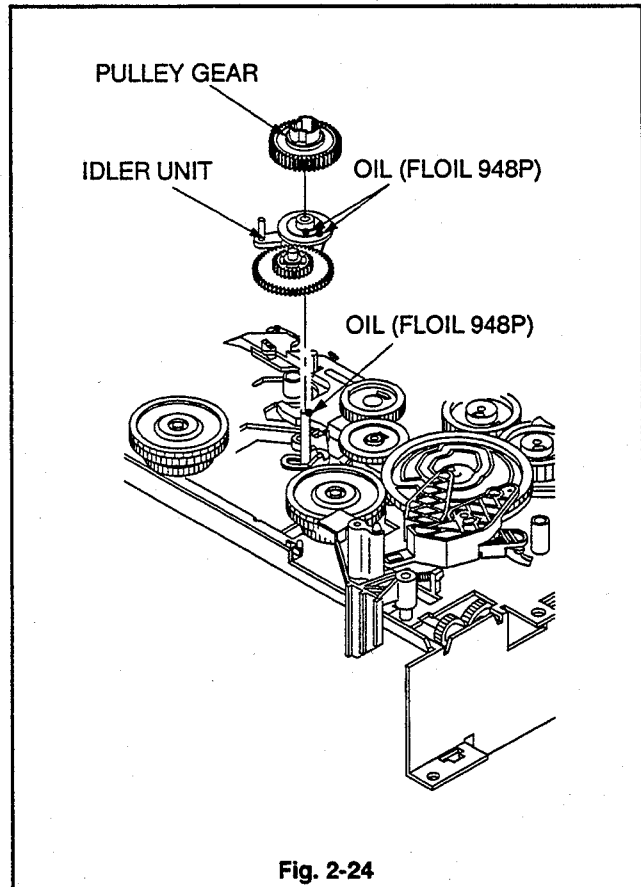

Fig. 2-24
1. Remove the PULLEY GEAR shown in Fig. 2-24.
2. Remove the IDLER UNIT shown in Fig. 2-24.
1. Apply OIL (FLOIL 948P) [859D154O20] to the shaft for the IDLER UNIT, shown in Fig.2-24.
2. Apply OIL (FLOIL 948P) [859D154O20] to the area specified in Fig. 2-24 on the new IDLER UNIT.
3. Install the IDLER UNIT shown in Fig. 2-24.
4. Install the PULLEY GEAR shown in Fig. 2-24.